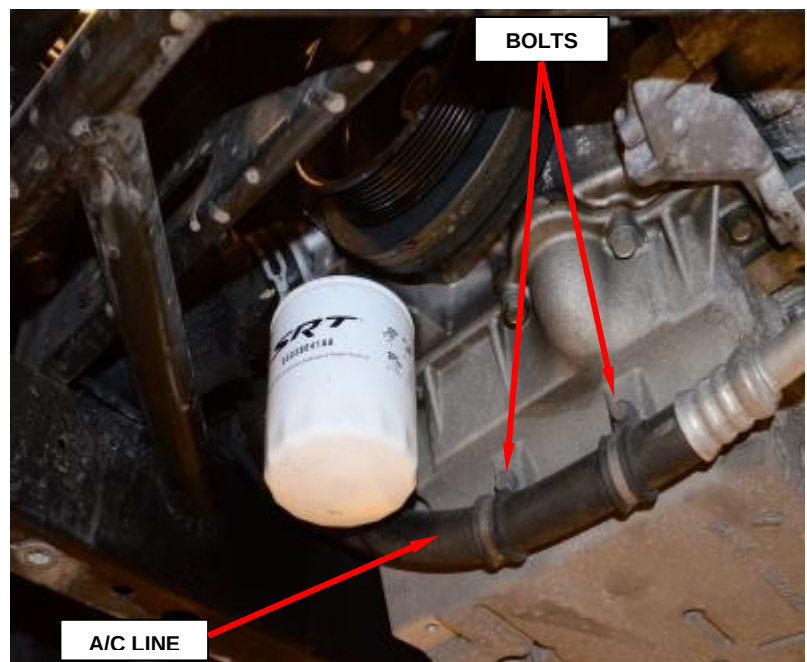

Figure 40 – A/C Line to Oil Pan
48. Remove the two bolts securing the A/C line to the oil pan (Figure 40).